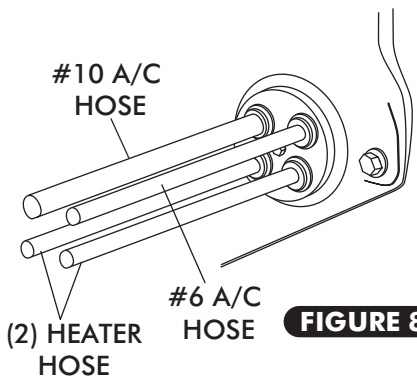

FIGURE 8
- ❑ ROUTE A/C AND HEATER HOSE THROUGH FRESH AIR CAP AND KICK PANEL FRESH AIR CAP AS SHOWN IN FIGURE 8 AND 8b, BELOW.